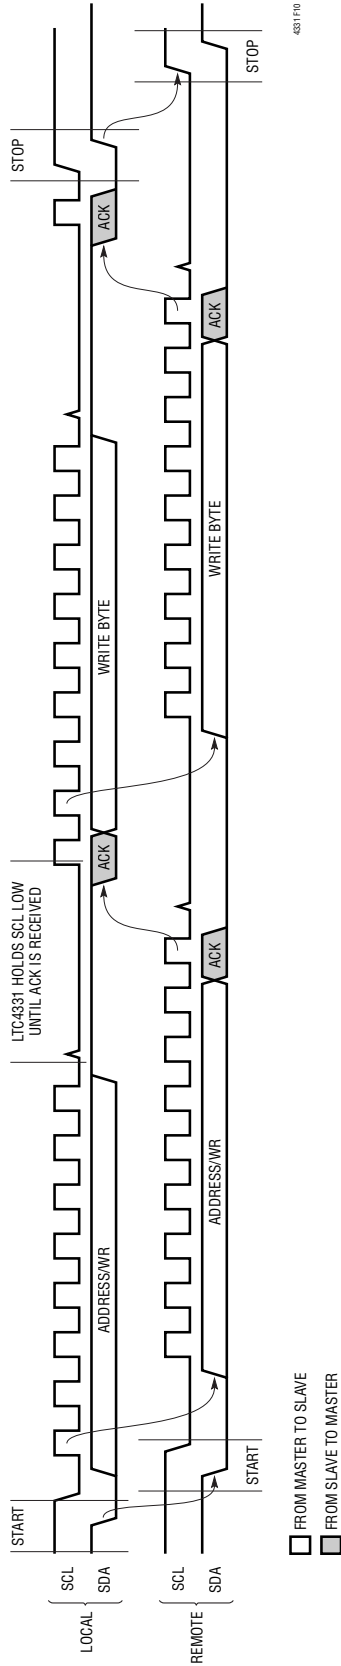

Figure 10. Full Write
device, configured for local mode, encodes and transmits the captured I2C events to the remote I2C network where they are recreated on the remote I2C bus. If additional LTC4331 devices configured as slaves, REMOTE set low, are connected to the remote I2C network, they also transmit the events to the 3rd tier I2C network, and so on. The local side LTC4331 always holds SCL low on the 9th bit waiting for an (N)ACK response from the remote slave device(s). When the local side LTC4331 receives the response, SCL is released with the response data set on the I2C bus. If the R/W bit is set to Write, the bus turns around after the ACK and the local LTC4331 switches back to slave-receive mode in order to capture the incoming write data. After the 8th SCL clock, the bus and link direction reverse in order to retrieve the (N)ACK response from the remote slave device. This sequence continues until the master sends a START or STOP condition. Data to be transferred across the link is stored in a buffer if the local I2C transaction is faster than the effective link rate. See Figure 10.